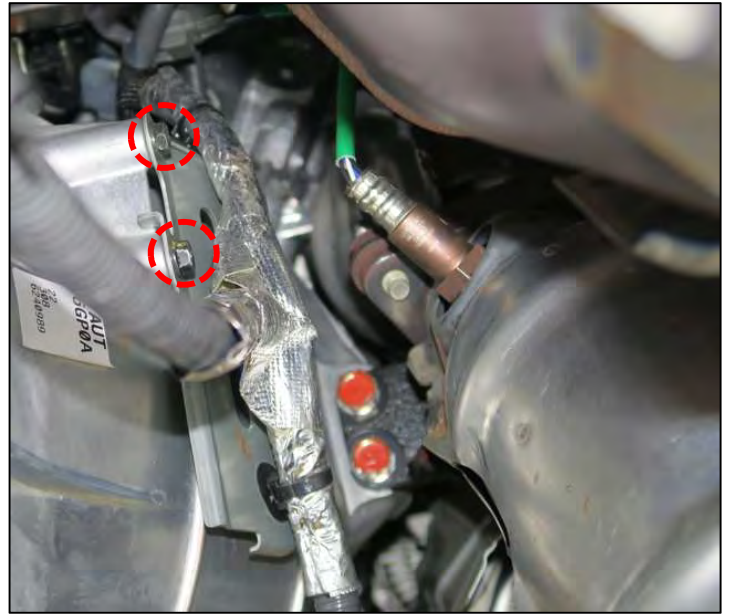

Figure 84
85. Install the (2) bolts on the harness retainer bracket that secures the harness to the transmission on the RH side of the transmission. (Figure 84)